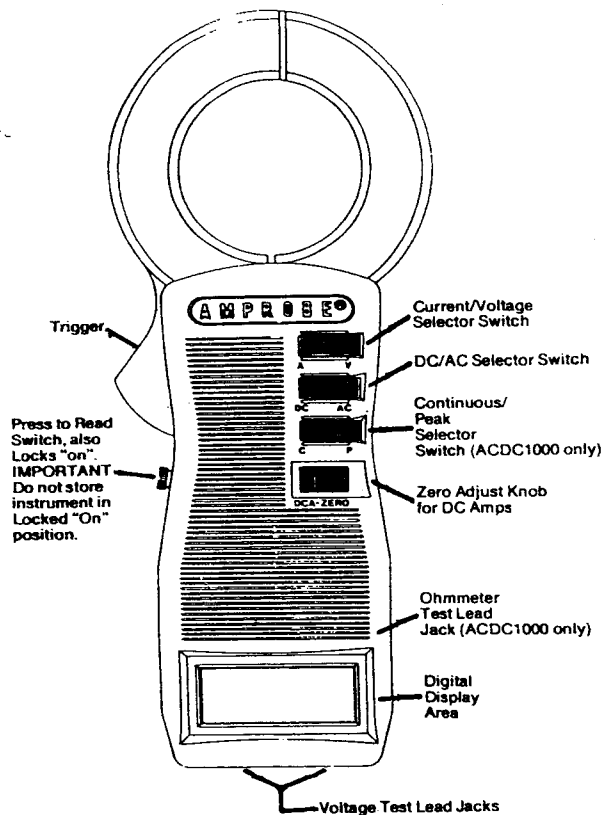

Figure 1
- 5) Insert insulated voltage test lead connectors into voltage receptacles in bottom of instrument. (See Fig. 1) Push in against receptacle spring and twist clock-wise to lock in place.
- 3) Plug ohmmeter lead into jack on the right side of the instrument. (See Fig. 1)
To take a reading once the instrument has been connected as per the following instructions, push in on the Press-to-Read button. See Fig. 1.